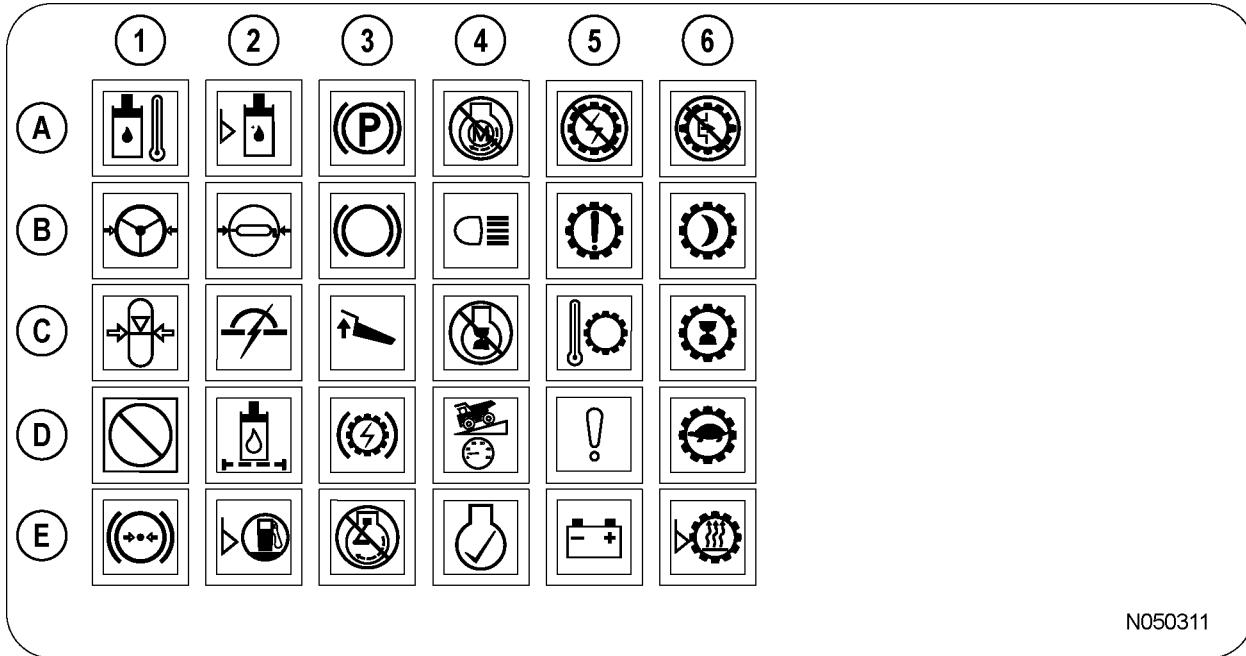

FIGURE 32-8. OVERHEAD STATUS / WARNING INDICATOR
Amber indicator light (B6, Figure 32-8) in the overhead panel will illuminate when the rest mode is activated.
*NOTE: Do not use the lamp check switch while the engine is on. Pressing this switch while the engine is on will cause false electrical system faults. Warning light (D5, Figure 32-8) will illuminate and engine shutdown is required to turn it off.*
Backup light switch (19, Figure 32-7) allows the backup lights to be turned on for added visibility and safety when the directional control lever is not in the REVERSE position. When the switch is in the ON position, the backup light indicator (B4, Figure 32-8) in the overhead panel will be illuminated.
Red indicates high oil temperature. Continued operation could damage components in the hydraulic system. Warning lights (A1, Figure 32-8) and (E1) in the overhead panel will illuminate when the temperature exceeds a certain level (when the needle enters the red zone). If this occurs, the operator should safely stop the truck, move directional control lever to PARK and operate the engine at 1200 - 1500 rpm to reduce system temperature.
Refer to Figure 32-8 and the descriptions below for explanations of the symbols. Location of the symbols is described by rows (A - E) and columns (1 - 6).